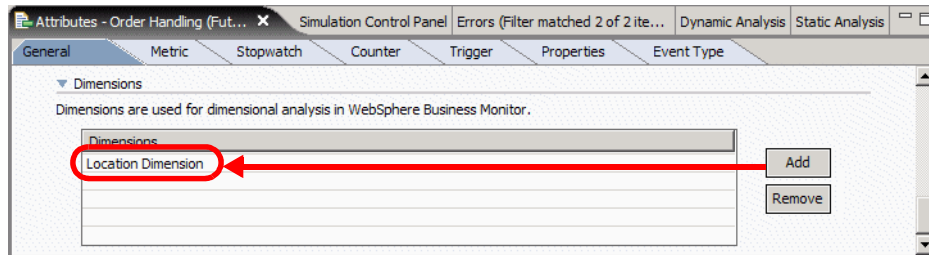

Figure 8-24 Creating a dimension
- ▶ Click *Add* in the Dimensions section and overtype the default name with Location Dimension (Figure 8-24).